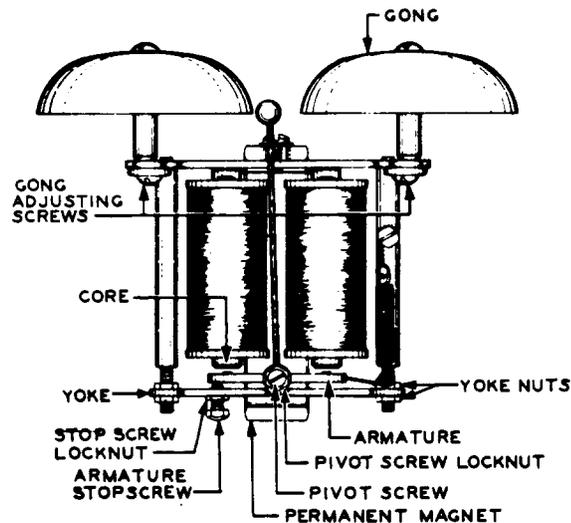

Fig. 11 - Adjusting Screws for 6-, 7-, 8-, and 42-type Ringers
(1) If the gong mounting is of the style shown in Fig. 11, adjust the clearance between the clapper ball and gong by loosening the gong adjusting screws with the 3-inch cabinet screwdriver and shifting the gong as required.